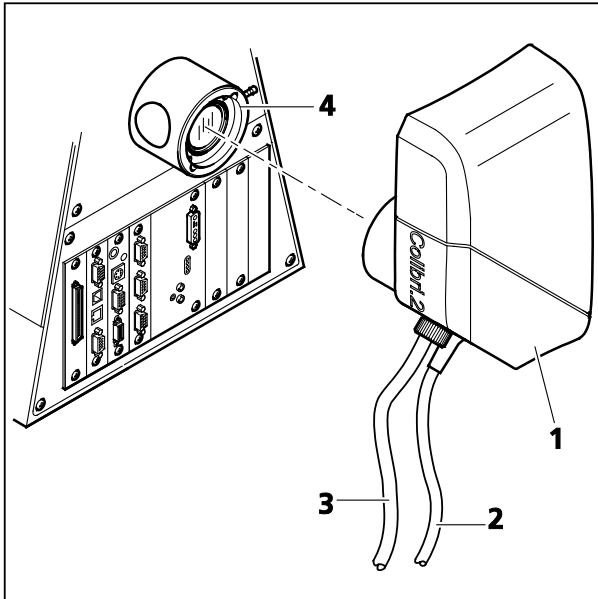
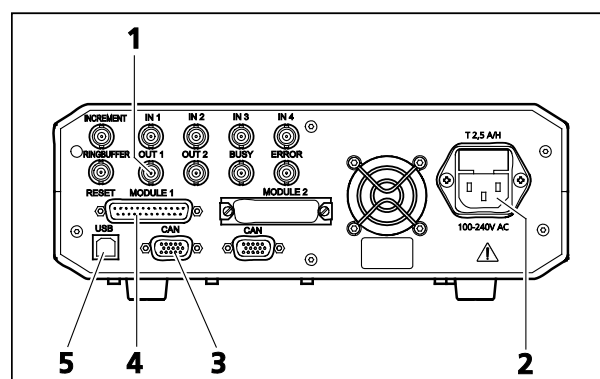
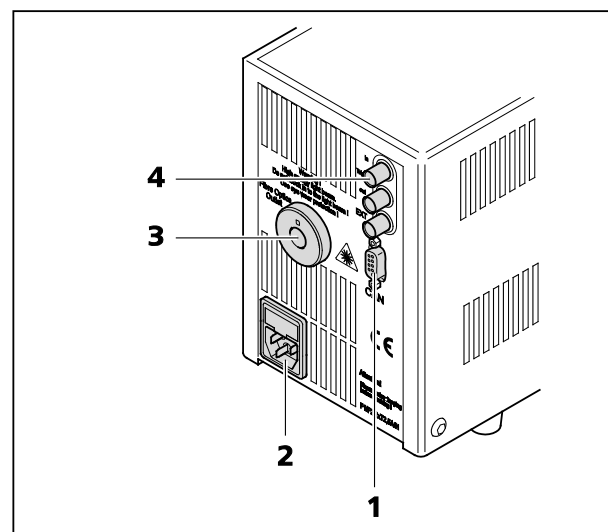

Fig. 3-2 Attaching the lamp module
Fig. 3-7 Control unit, rear
Fig. 3-11 Illumination system HXP 120 V, rear
- Attach the lamp module (Fig. 3-2/1) via the dovetail of the illumination adapter to the reflected light mount (Fig. 3-2/4) of the microscope and fasten it by means of the clamping screw.
- Connect the lamp module cable (Fig. 3-2/2) to the 25-pin subD port of the control unit (see Fig. 3-7/4).
- Connect the control unit (see Fig. 3-7/2) with the power cable to a power outlet.
- Introduce one end of the light guide into the white light source (see Fig. 3-11/3) and the other end into the connection point of the lamp module (Fig. 3-2/3) and fasten it by means of the swivel nut.
- The internal motorized shutter of the white light source HXP 120 V can be triggered via the 9-pin subD port of the lamp housing. Connect for this purpose the trigger cable with the BNC socket **OUT 1** of the Colibri control unit (see Fig. 3-7/1).
- Connect the white light source (see Fig. 3-11/2) with a power cable to a power outlet.
- several BNC ports; the trigger cable leading to the white light source has to be inserted in **OUT 1** (Fig. 3-7/1)
- the power connection socket (Fig. 3-7/2)
- two CAN ports (Fig. 3-7/3) for the connection to the microscope
- the 25-pin subD port (Fig. 3-7/4) for connecting the Colibri.2 lamp module
- the USB port (Fig. 3-7/5) for the connection to a PC.
At the rear there are the power connection socket (Fig. 3-11/2) and the fiber optics outlet (Fig. 3-11/3).
Besides that, the trigger cable port **Trigger in** (Fig. 3-11/4) is situated here. The trigger cable must be used to connect the HXP 120 V to the Colibri.2 control unit, if the shutter should be controlled via the Colibri.2 unit. If the shutter should be controlled by the microscope, the microscope has to be connected to the **CAN** port (Fig. 3-11/1) of the HXP 120 V.